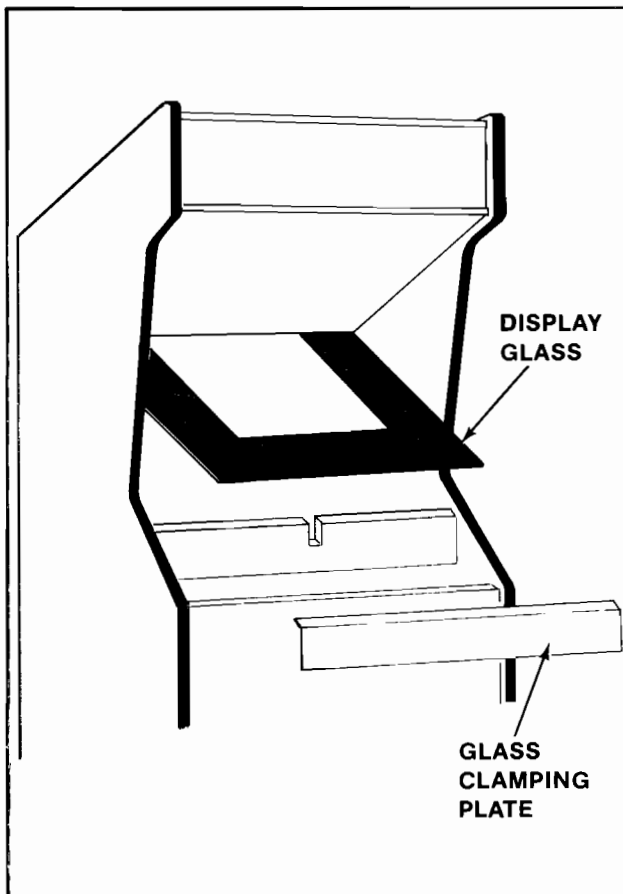

Figure 4-5 Removing the Main Display Glass & T.V. Bezel — Upright
### 1. UPRIGHT MODEL: See Figure 4-5.
- Remove the screws securing the main-display-glass retainer and the main-display-glass in place as shown in Figure 4-5 and lift out the main-display-glass.